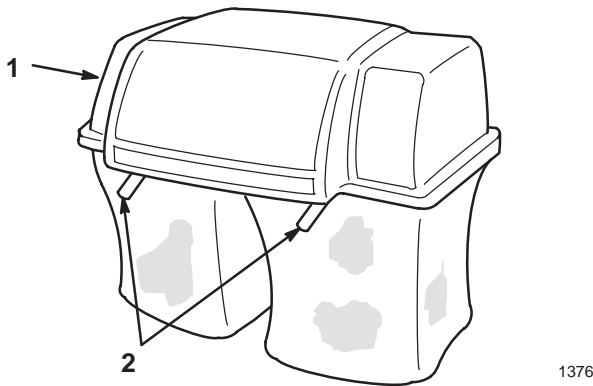

Figure 32
2. Raise the bagger top and remove the grass bags from the bag frame (Fig. 32).